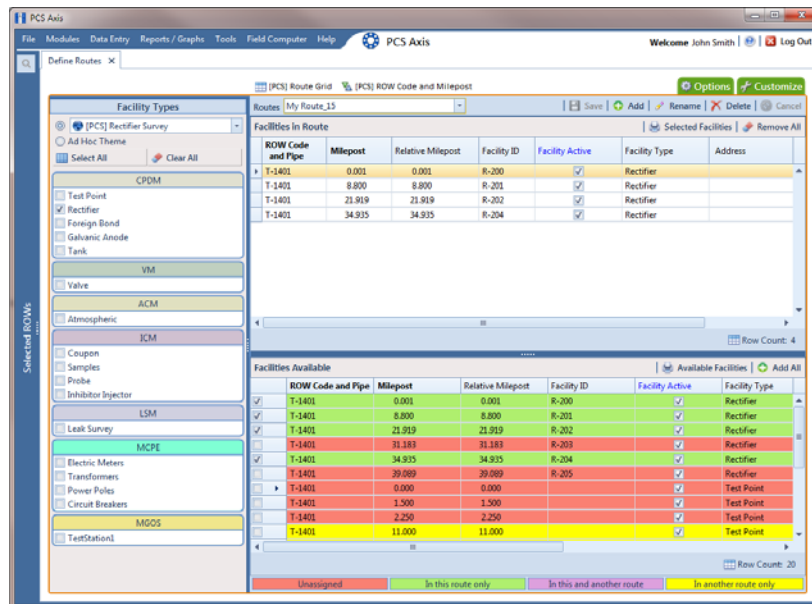

Figure 8-10. Define Routes
- 5 Complete the following steps in the *Facilities Available* grid (Figure 8-10):